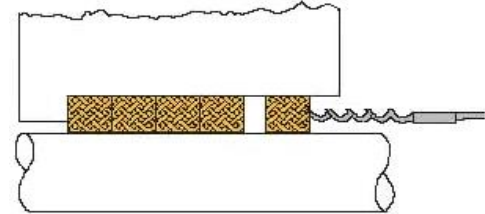

Figure 6. Removing Packing with Hook
5. Refer to Figure 6; remove all old packing rings (180) by using the proper size packing removal hook. The lantern ring (29) will remain on the shaft (6) and should be slid to near the slinger (40).
3. If stationary element of mechanical seal (90) is to be replaced, clean, dry, and lubricate gland (17). Lubricate stationary element of mechanical seal with suitable lubricant. Insert stationary element of mechanical seal into gland.
4. Install gland (17) on shaft (6), slide back towards slinger (40).
5. Install casing (1) to bearing frame (19) or motor (200), clamping bracket (131A) with capscrew (601).
6. Lubricate outside of shaft sleeve (14) to facilitate mounting of mechanical seal (90). Install mechanical seal rotating elements on shaft sleeve.
7. Coat shaft sleeve (14) bore with DOW 111 and install shaft sleeve over O-ring (89) onto shaft (6).
8. Slide gland (17) with stationary elements of mechanical seal (90) onto studs (630) and secure finger tight with gland hex nuts (615) and washers (645). As applicable, ensure tap flush lines in gland (17) is positioned so flush lines can be connected.
If your pump is equipped with an enclosed impeller, it may have an optional, replaceable wear rings (7 and 7X) in the suction cover (9) or backhead (11). If your pump is equipped with the optional wear rings (7 and 7X), use the following instructions, Table 8 and Figure 6 for wear ring replacement.